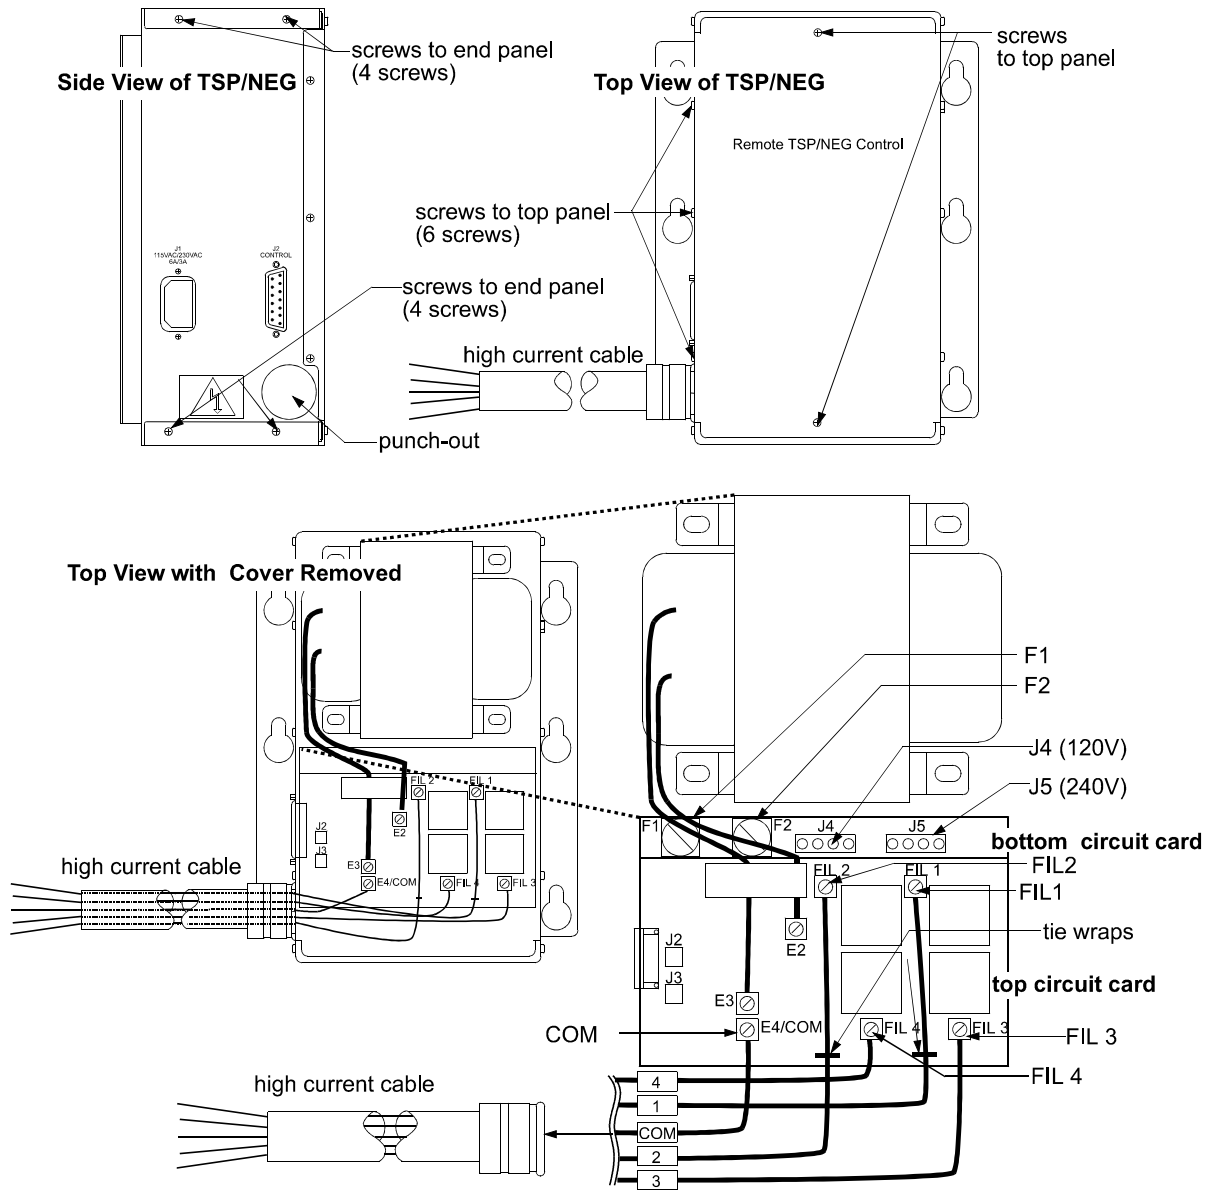

Figure 4-8. Remote TSP/NEG Control — Location of Components.
To change input voltage on the Remote TSP/NEG, you need to access the bottom circuit card inside the unit. Refer to Figure 4-8 for its location.
3. On the bottom circuit card (Figure 4-8), pull out the input voltage connector and reconnect it to appropriate voltage:
2. Tap the punch-out on the end panel to make a hole for the high current cable connector (Figure 4-8). Install the cable connector.
3. On the top circuit card, connect high current cable wires 1 and 2 to FIL 1 and FIL 2, respectively. Install tie wraps to these wires. See Figure 4-8.